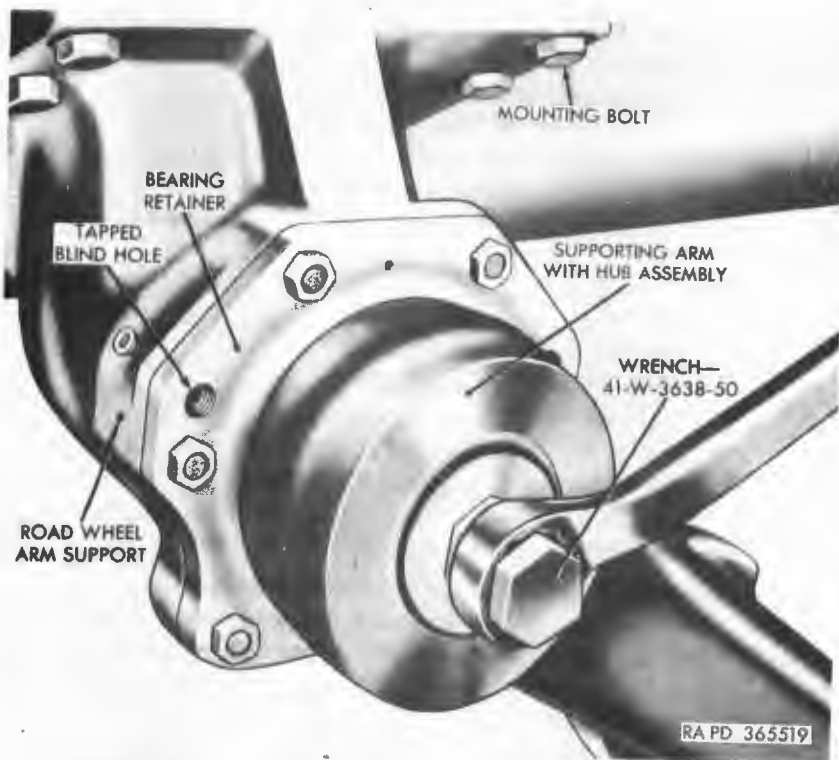

Figure 217. Removing or installing torsion bar hex-socket nut.
- (d) Remove hex-head bolt (A) and lockwasher (B) and remove hex-socket nut (C) and gasket (D) from road wheel arm using wrench 41-W-3638-50 (fig. 217) and
- (b) Install 2 $\frac{1}{2}$ -inch hex-socket nut (C) and new 2 $\frac{1}{8}$ -inch ID gasket (D) using wrench 41-W-3638-50 (fig. 217) and box or socket wrench. Tighten hex-socket nut to 50 to 75 pound-feet torque.
- (c) Insert $\frac{1}{2}$ x $1\frac{1}{8}$ hex-head bolt (A) and $\frac{1}{2}$ -inch lock-washer (B) through hole in hex-socket nut (C) and tighten to 60 to 75 pound-feet torque.
- (f) Remove torsion bar (F, fig. 216) (par. 223b) from arm support (E-9, fig. 216) on opposite side of hull and remove supporting arm with hub assembly (E-1, fig. 216). Remove 10 mounting bolts (fig. 217) securing arm support (E-9, fig. 216) to hull and remove arm support.
- (2) *Intermediate and rear intermediate supporting arm with hub and support assemblies.* Operations to be performed for the removal of these supporting arm assemblies are
- (1) Remove two filler plugs (E-17) and six self-locking hex-head bolts (E-18) from bearing retainer (E-3). Install two of the bolts just removed in the two tapped blind holes (fig. 217) in bearing retainer. Place a suitable container of at least 1-quart capacity under supporting arm with hub assembly (E-1) and arm support (E-9), and alternately tighten bolts installed in retainer to release arm with hub assembly from support. Permit oil to drain into container and remove arm with hub assembly.
- (3) Carefully insert shaft of supporting arm with hub assembly (E-1) and attached parts into arm support (E-9). Tap shaft of arm with hub assembly until seated in arm support, being careful not to cut or damage oil seals. Secure bearing retainer (E-3) to arm support with six $\frac{1}{2} \times 1\frac{1}{4}$ self-locking hex-head bolts (E-18) tightened to 80 to 90 pound-feet torque. Install two $\frac{5}{8}$ -inch filler plugs (E-17) in two tapped blind holes (fig. 217) in retainer. Fill arm support of supporting arm with hub and support assembly with oil as specified on lubrication order LO 9-7218 (par. 90) and install two $\frac{1}{4}$ -inch pipe plugs (E-10).
- (1) *Front, front intermediate, and rear supporting arm with hub and support assemblies.*
- (a) Coat mating surfaces of arm support (E-9) and hull with a thin film of gasket cement. Position supporting arm with hub and support assembly on hull, and secure with ten $\frac{3}{4} \times 2\frac{3}{4}$ mounting bolts (fig. 217). Tighten bolts to 300 to 325 pound-feet torque.
- (b) Install torsion bars (F) and torsion bar anchors (E-11) (par. 223e). Attach connecting link assembly (par. 225g) to front supporting arm with hub assembly (E-1).
- (2) *Intermediate and rear intermediate supporting arm with hub and support assemblies.* Installation of the intermediate and rear intermediate supporting arm with hub and support assemblies (E) are identical with those in (1) above, except that no shock absorber with bearing assemblies are to be installed.